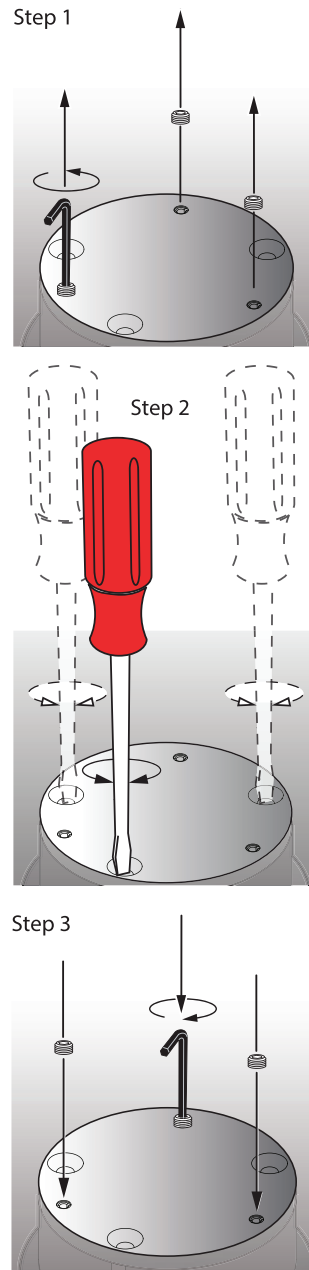

FIGURE 2. Pavement Leveling
6. Place the sensor onto the top of the Pavement Sensor Housing. Install mounting screws through the sensor to secure it to the Height Adjustment Ring. The top of the sensor has three protective Allen-head set screws, under which are located three access holes to reach the height adjustment screws; remove these screws. Adjust the height until the exposed surface of the sensor is flush with the surrounding pavement such that it avoids melt pooling during operation. As needed, rotate the three adjustment screws to the left to raise the height adjusting ring or to the right to lower the ring, and then replace the three protective set screws. See Figure 2.